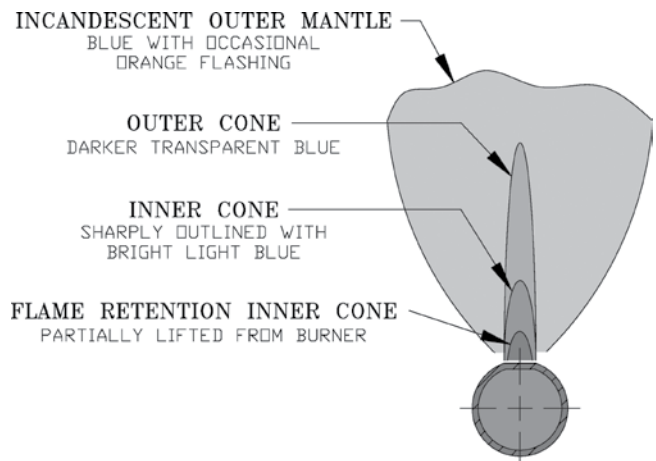

Figure 15: Main Burner Flame
- I. Check main burner flame.** See Figure 15. Flame should have clearly defined inner cone with no yellow tipping. Orange-yellow streaks should not be confused with true yellow tipping.
1. Intermittent Ignition (EI). Disconnect Ignition/sensor cable from Terminal 9 (Spark). Gas valve should close and pilot and main burners should extinguish.